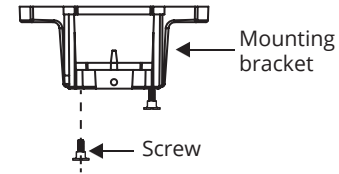

FIGURE 6
2. Remove 1 of 2 screws from the bottom of mounting bracket and save for use in section 9. Loosen the other screw. (Fig. 6)